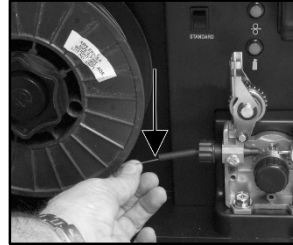

Fig. 11
5. Snip the wire carefully, be sure to hold the wire to prevent the spool uncoiling. Carefully feed the wire into the inlet guide tube of the wire feed unit (Fig. 11).